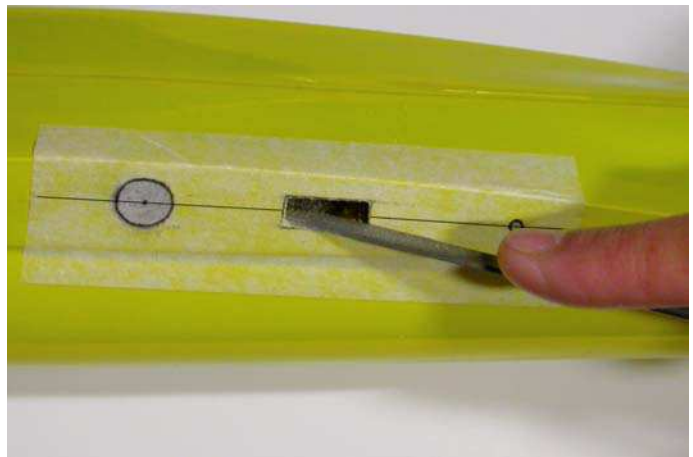

Fig.56: Finish the shape of the hole.
- using a flat file, finish the shape of the hole (see figure 56);